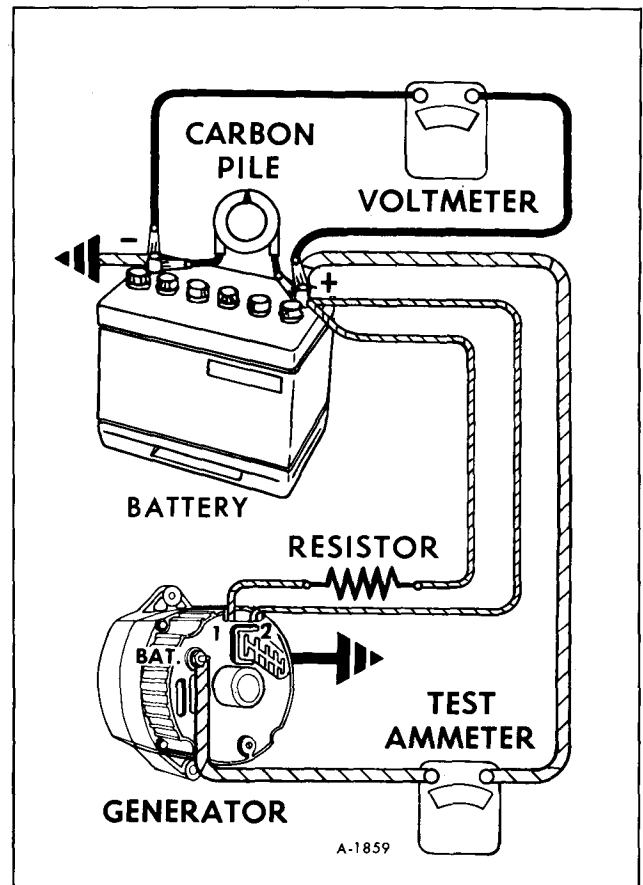

Figure 31—Connections for Testing Generator Output
1. Make connections as shown in Figure 31, except leave the carbon pile disconnected. **IMPORTANT**—Ground polarity of battery and generator must be the same. Use a fully charged battery, and a 10 ohm resistor rated at six watts or more between the generator No. 1 terminal and the battery.